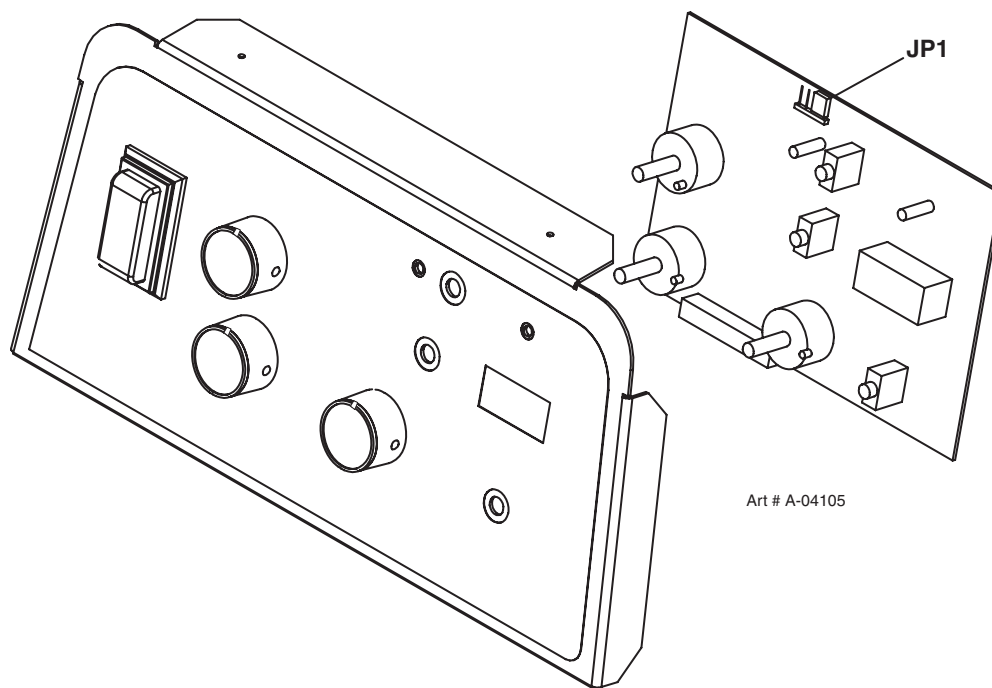

Figure 3-8 Wire-Sharpening jumper plug
2. Remove the top and side panels to gain access to the display board. (see Figure 3-8).